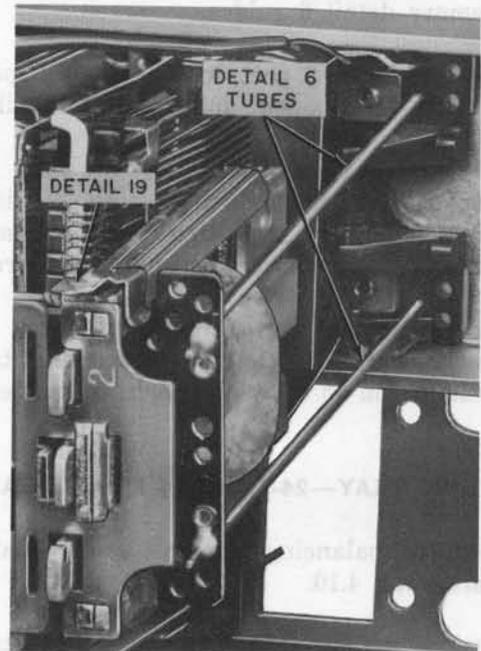

Fig. 24—Detail 6 Tubes on Terminal Rods
4.59 Apply detail 19 (Fig. 24) clip on the front tip of the new coil, core, and armature assembly. This clip will hold both the armature core and coil together until all parts fit into terminal bracket.
4.60 Insert terminals of the new relay coil into detail 6 tubes, and guide the terminals into their respective holes in the terminal bracket. Upper detail 6 tubes should protrude approximately 1 inch ahead of the lower tubes to facilitate insertion into the terminal bracket. The tubes are used to prevent shorting of the coil terminals. (See Fig. 24).
- 4.82 Apply detail 19 (Fig. 24) clip on the front tip of the new coil, core, and armature assembly. This clip will hold the armature core and coil together until all parts will fit into terminal bracket.
- 4.104** Apply detail 19 (Fig. 24) clip on the front of the new coil, core, and armature assembly. This clip will hold both the armature and coil together until all parts will fit into the terminal bracket.